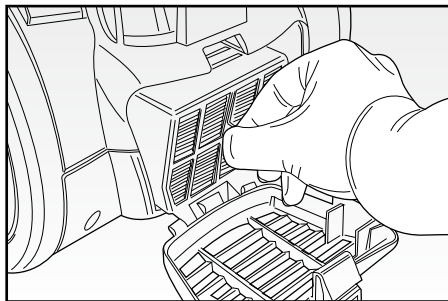

Fig. 13
- Clean the filter in cold water and leave it to dry (Fig. 13).